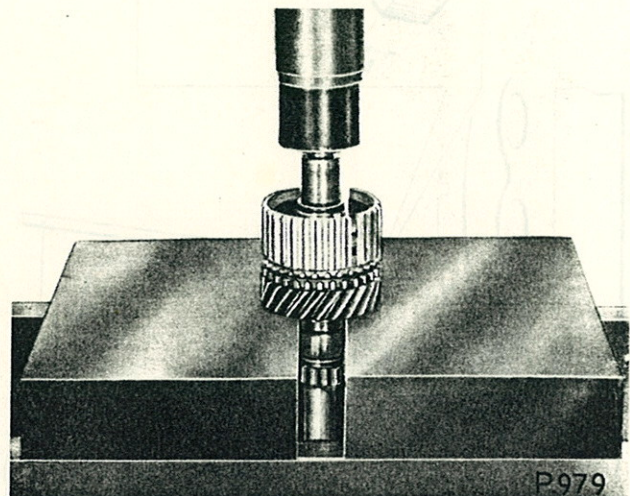

Fig. E.13. Pressing the 3rd and 4th synchro hub off the mainshaft
- (d) Press the 3rd and 4th synchro hub off the mainshaft using the 3rd speed gear as a base (see Fig. E.13). Slide the reverse speed gear sliding sleeve from the 3rd and 4th synchro hub.